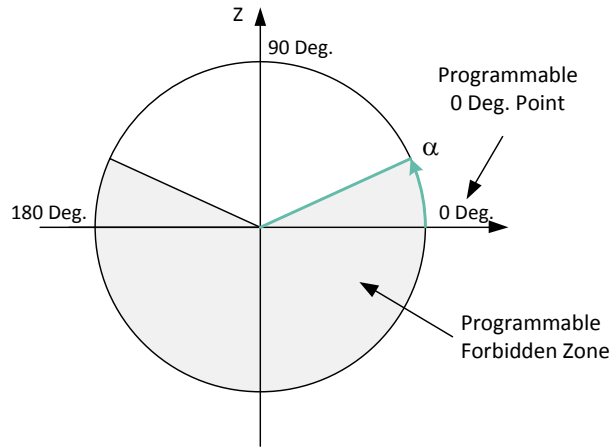

Figure 5 – Discontinuity Point and Dead Zone (Alpha - Idem ditto for Beta)
The Discontinuity Point (DP) defines the zero point of the circle (Alpha or Beta). The discontinuity point places the origin at any location of the trigonometric circle (see Figure 5).
The dead zone is defined as the angle window between 0 and 359.9999 Deg. (See Figure 5).